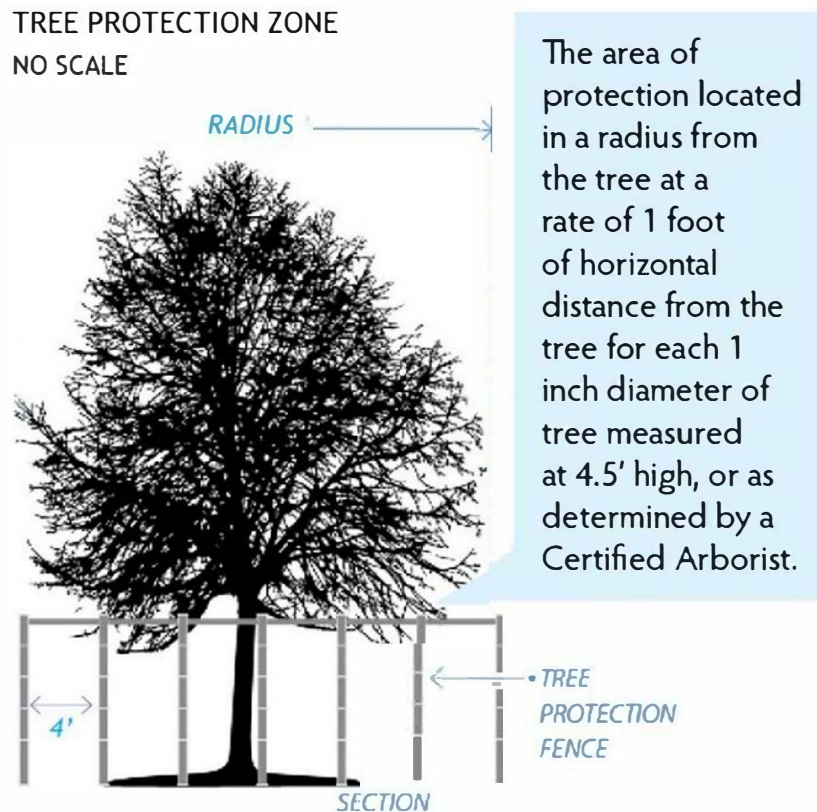

**Figure 9.1031 Illustration of a Tree Protection Zone**
1. Prior to any grubbing, clearing, grading, parking, preparation or storage of materials or machinery, or other construction activity on the site, all trees to be protected on the project site and adjacent to the site shall be clearly identified and temporary fencing shall be installed at the perimeter of the Tree Protection Zone. Protective fencing shall be of a material that cannot easily be moved, removed, or broken during construction activities. Chain link fencing a minimum of 4 feet in height is preferred. An alternative Tree Protection Zone fencing material secured by metal posts staked at no more than 4 feet on center around the Tree Protection Zone, as illustrated in **Figure 9.1031**, of the tree or Grove may be used with the approval of the Manager.